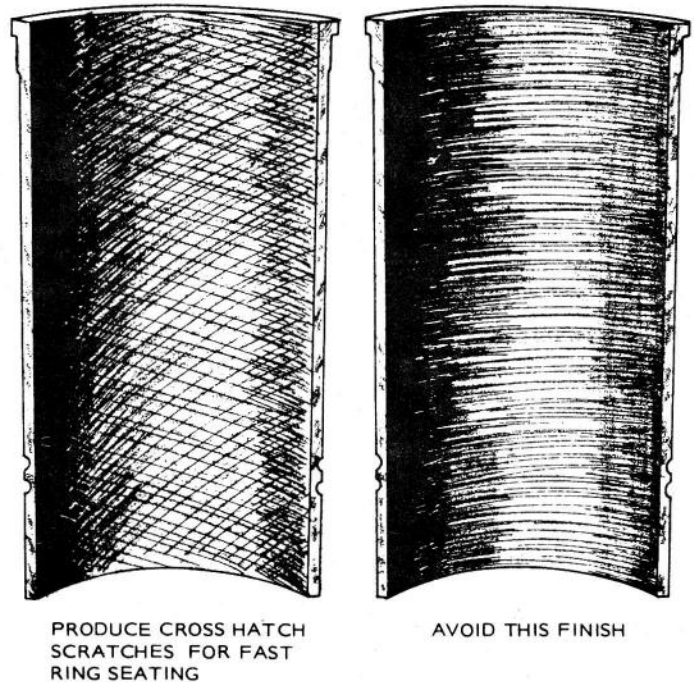

FIGURE 25. HONE FINISH
7. When the cylinder is approximately 0.002 inch (0.051 mm) within the desired bore, change to fine stones and finish the bore. The finish should not be smooth but as shown in Figure 25. The crosshatch formed by the scratching of the stones should form an angle of 23°. This can be achieved by moving the hone up and down in the cylinder about 40 cycles per minute.